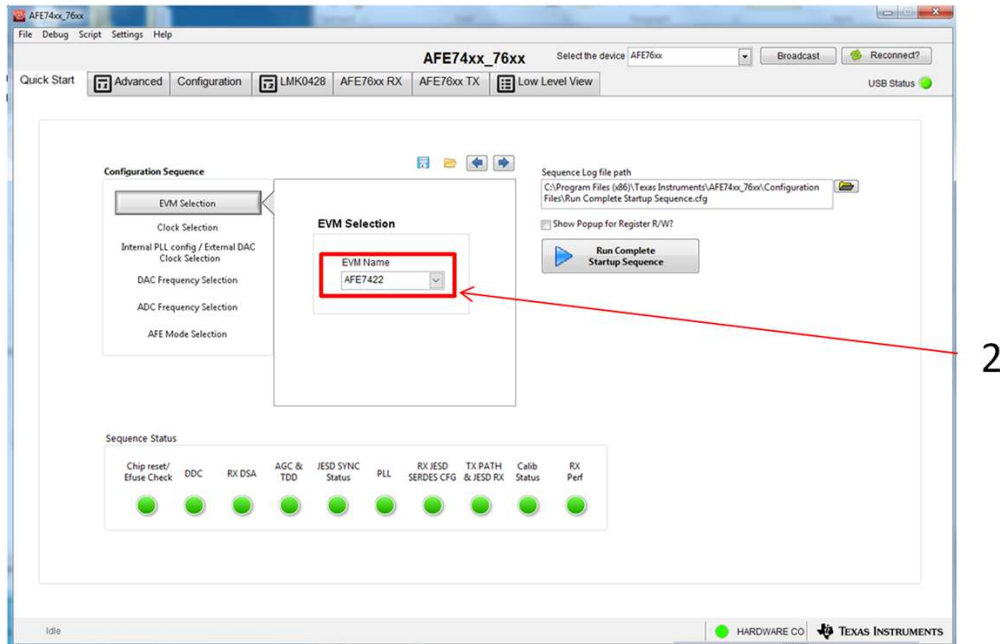

Figure 9. EVM Selection Page
1. Run the AFE74xx EVM_76xx GUI as administrator. The quick start page shown in Figure 9 appears.
2. Under *EVM Selection*, verify that the EVM name shown matches the EVM in operation, labeled as 2 in Figure 9